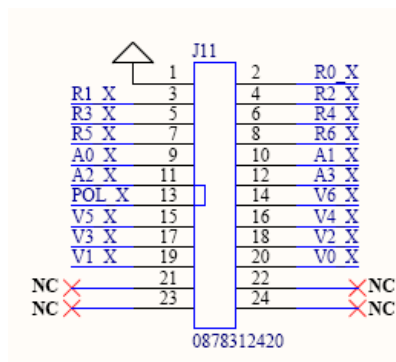

Figure 2. (J11) I/O pin configuration
14. Optional: The divide ratio of the prescaler and the charge pump output current of the phase frequency detector can also be programmed through (J11), (a 24-pin Molex connector interface, mfg pn 87831-2420), using an external programming device, see Figure 2. If using an external programming device, set the on-board dip switches (S1: R0-R6, S2: A0-A3 and POL, and S3: V0-V6) to the open position first before making connection to the external programming device.